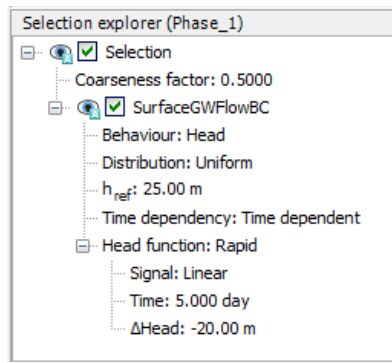

Figure 6.7 Definition of *SurfaceGWFlowBC* for the rapid drawdown case
- Set the time dependency to *Time dependent* and select the *Rapid* option as *Head function*. Information related to the head function is displayed in the *Object explorers* as well (Figure 6.7).